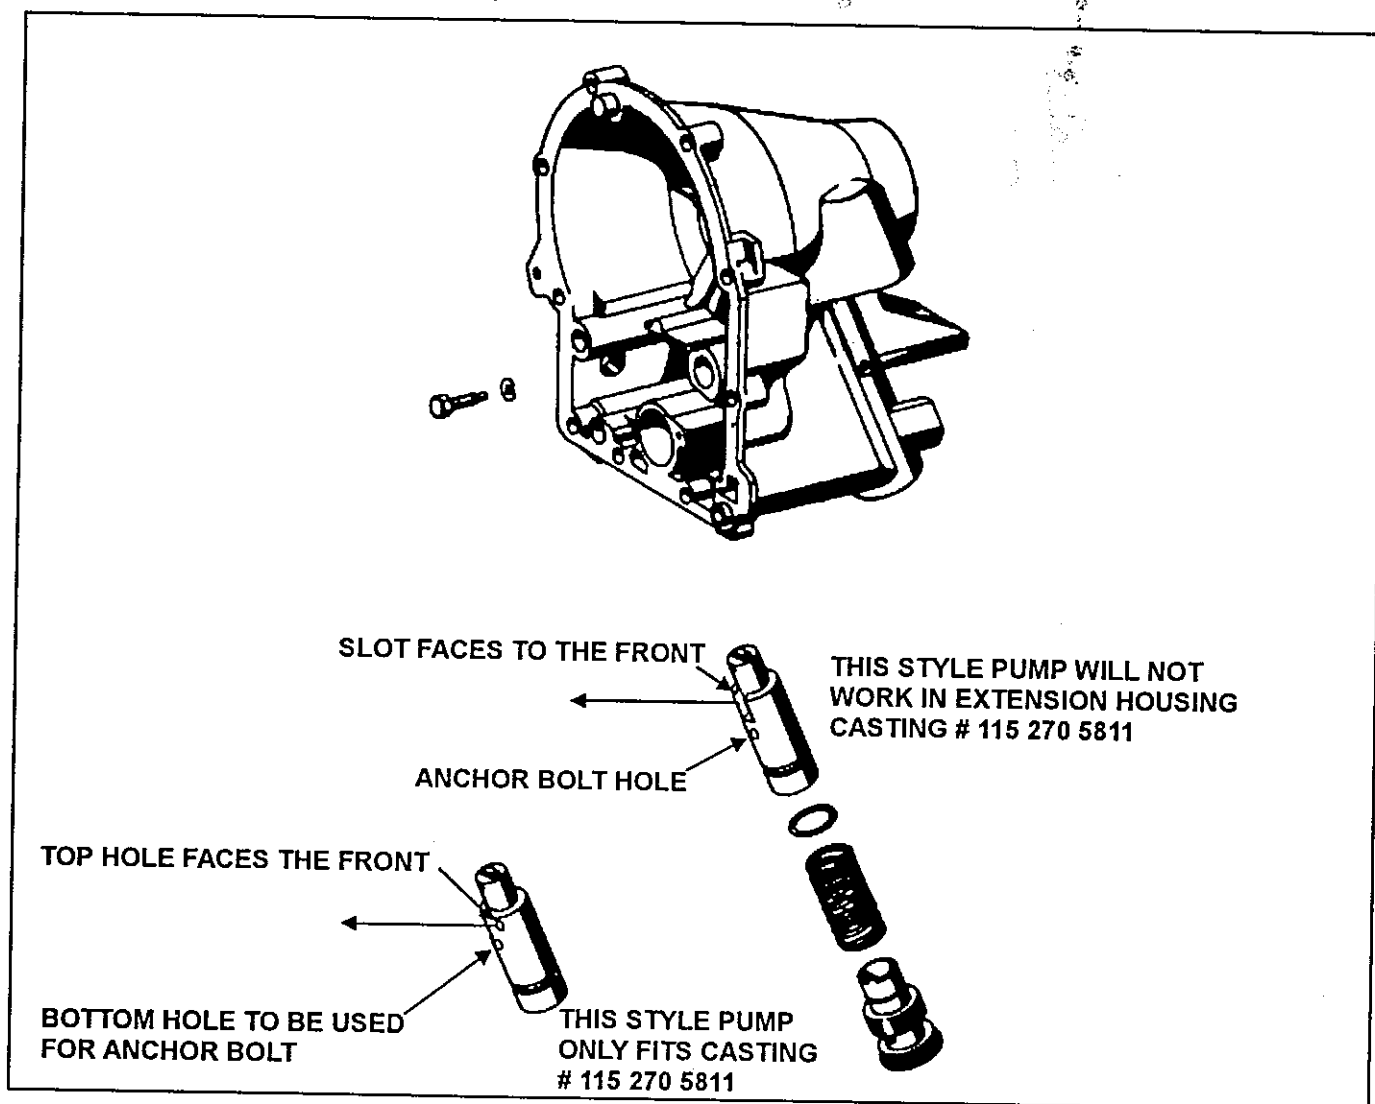

Figure 1
- CORRECTION:** Install the secondary rear pump with the slot facing towards the front of the transmission and not towards the back (See Figure 1). There is also another style pump where there are two holes on one side of the shaft with a slot on the opposite side. This style should have the slot towards the back with the two holes towards the front of the transmission (See Figure 1). Be sure to use the bottom hole for the anchor bolt. If the top hole is used, the roller on the pump will be destroyed. This style secondary rear pump with two holes will only fit in an extension housing with casting number 115 270 5811. The design with the slot and hole will NOT fit properly in this extension housing as the anchor bolt hole will not line up with the hole in the casting.